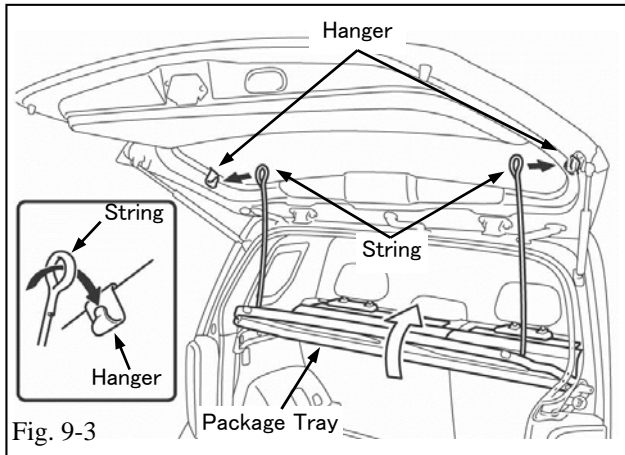

Fig. 9-3
- (c) Hook the 2 pieces of string from the package tray to the 2 hangers. (Fig. 9-3)